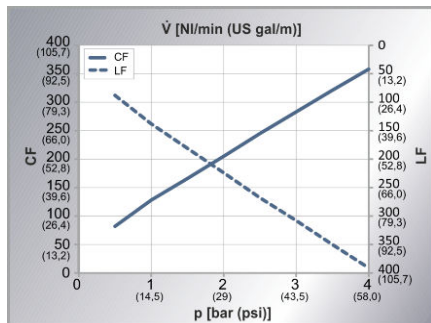

Fig. 5: Characteristic curve
- Air consumption: see characteristic curve Fig. 5